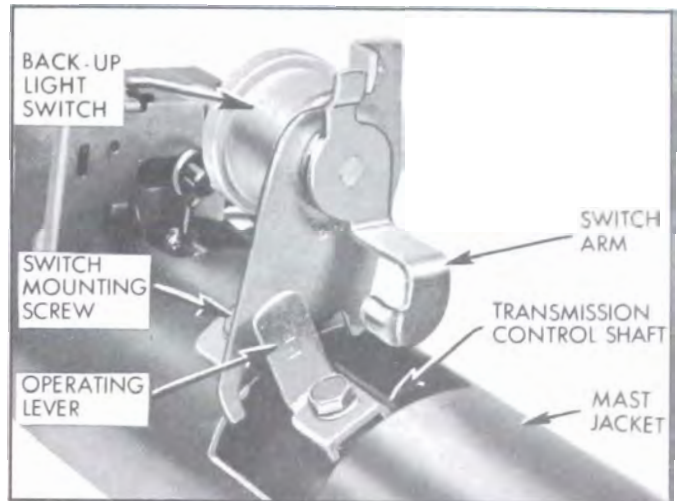
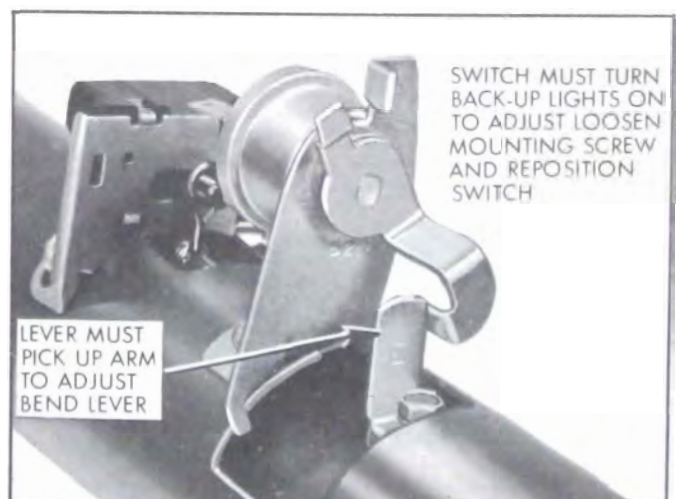

Figure 10-49—Bottom View of Back-up Light Switch - Neutral Position
Figure 10-50—Back-up Light Switch - Reverse Gear
On synchromesh transmission cars, the back-up light switch is mounted on the steering mast jacket. This switch is actuated by a lever which projects through a slot in the jacket. The lever is attached to a weld nut on the transmission control shaft. See Figure 10-49. When the transmission is shifted into reverse, the control shaft is moved downward and then rotated counter clockwise. This in turn positions the lever so that it picks up the switch arm and turns the back-up lamps on. See Figure 10-50. When the shift is made out of re-
5. If back-up lights are not on in reverse, check to see that operating lever is picking up switch arm. If necessary bend lever. See Figure 10-50. If lamps are not on when switch arm is picked up correctly, loosen switch mounting screw and move switch on mast jacket until lamps are turned on. Retighten screw and recheck adjustment.